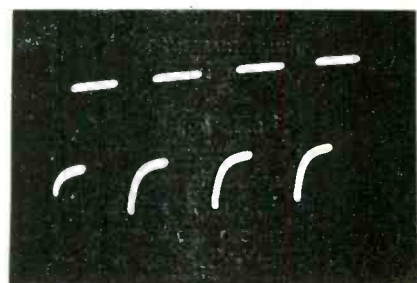

Fig. 6—Unsymmetrical tilt and curvature due to poor filters.
**A.** A situation of this sort is illustrated in Fig. 6. It is usually advisable to check the condition of the large electrolytic bypass capacitors in